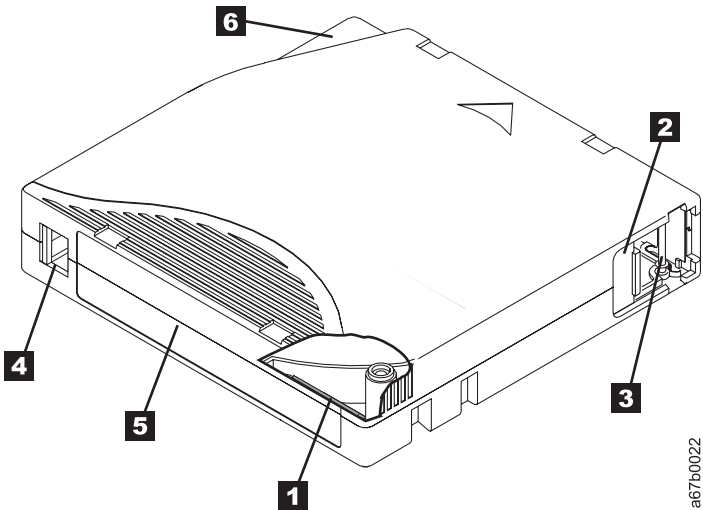

Figure 12. The IBM TotalStorage LTO Ultrium 400 GB Data Cartridge
Figure 12 shows the IBM TotalStorage LTO Ultrium 400 GB Data Cartridge and its components.
All generations of the IBM LTO Ultrium Data Cartridges include a Linear Tape-Open Cartridge Memory (LTO-CM) chip ( **1** in Figure 12 on page 51), that contains information about the cartridge and the tape (such as the name of the manufacturer that created the tape), as well as statistical information about the cartridge’s use. The LTO-CM enhances the efficiency of the cartridge. For example, the LTO-CM stores the end-of-data location which, when the next time this cartridge is inserted and the Write command is issued, enables the drive to quickly locate the recording area and begin recording. The LTO-CM also aids in determining the reliability of the cartridge by storing data about its age, how many times it has been loaded, and how many errors it has accumulated. Whenever a tape cartridge is unloaded, the tape drive writes any pertinent information to the cartridge memory. The storage capacity of the LTO-CM is 4096 bytes.
When attaching a bar code label to a tape cartridge, place the label only in the recessed label area (see **4** in Figure 12 on page 51). A label that extends outside of the recessed area can cause loading problems in the drive.
- Position the label within the recessed label area (see **5** in Figure 12 on page 51).